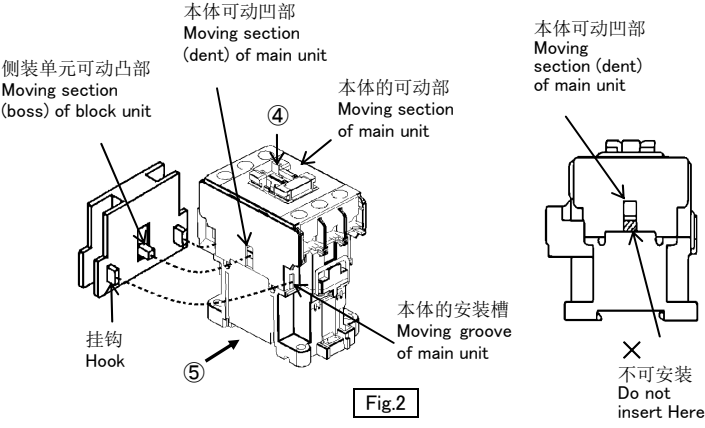
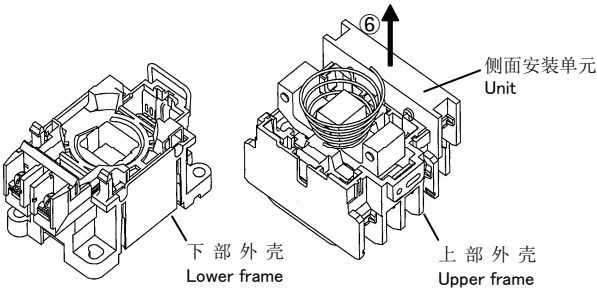

Fig.2
Fig.3
(2) 侧面安装类型 (Fig.2, Fig.3)
- 安装时，把本体可动部沿方向④插入，把侧面安装单元的可动凸部插入本体可动凹部，将侧面安装单元沿方向⑤压入，直至侧面安装单元的挂钩与本体的安装槽挂住。安装后按下本体可动部，确认其是否能顺利动作。(Fig.2)
- 拆卸时，先拆开上、下部外壳，再向方向⑥拉离。(Fig.3)
(2) Side mounting type (Fig.2, Fig.3)
- When mounting, insert the moving section(boss) of the block unit into the moving section(dent) of the main unit while pressing the moving section of the main unit in the direction of ④. Insert the block unit in the direction of ⑤ until the hook of the block unit is caught in the mounting groove of the main unit. After mounting, press the moving section of the main unit to ensure that the block unit moves smoothly. (Fig. 2)
- To remove the block unit, remove in the direction of ⑥ after separating upper and lower frames.(Fig. 3)